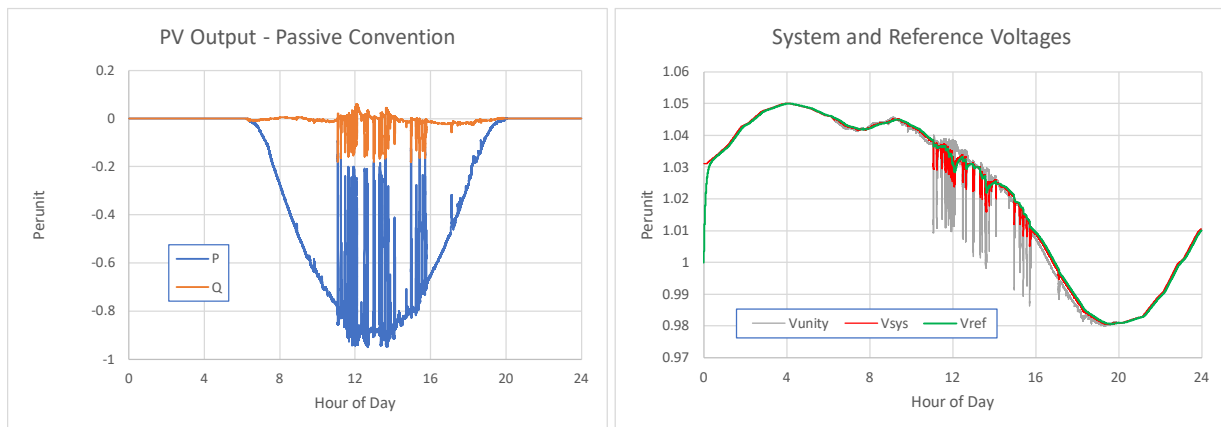

Figure 4: *ExpControl* produces near-zero net reactive power over time (left), while suppressing voltage fluctuations around the system voltage (right).
Lines 4-5 and 7-8 implement a grid voltage that varies even in the absence of solar power fluctuations. The case can be repeated with unity power factor, by commenting out lines 20-21. Figure 4 plots the *PVSystem* output and some voltages of interest. To the right, V_{ref} starts at 1 per-unit, and quickly adapts to the grid voltage, V_{sys} or V_{unity} , which is about 1.03 per-unit. The reactive power, Q , is zero during the initial adaptation of V_{ref} because there is no real power output, P , during this time, coupled with *varfollowinverter=true* in line 12. From about 1030 through 1600 hours, P fluctuates and this causes voltage fluctuation. At unity power factor, the V_{unity} fluctuations are about 3%. The V_{sys} fluctuations are mitigated to about 1% by the *ExpControl*, with approximately zero net Q integrated over the day. The V_{ref} signal follows and smooths the V_{sys} fluctuations by using *ExpControl*.
- *python plotunity.py* to visualize the effect of AVR vs. unity power factor on a cloudy day, producing Figure 4.
- *Hawaii.py* creates Figure 4 of the paper, using the OpenDSS COM interface. The network model is embedded in the Python source.